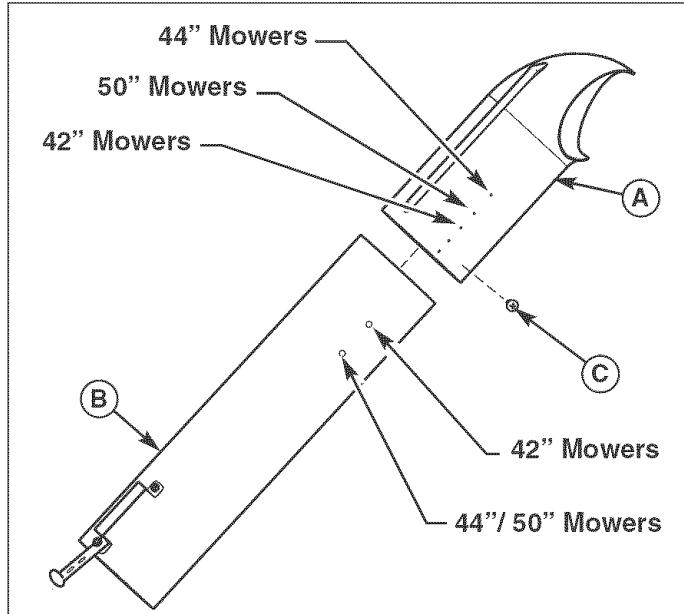

Figure 6. Middle and Upper Tube Assembly
1. Slide the upper tube (A, Figure 6) over middle tube (B) and secure together using screw (C).